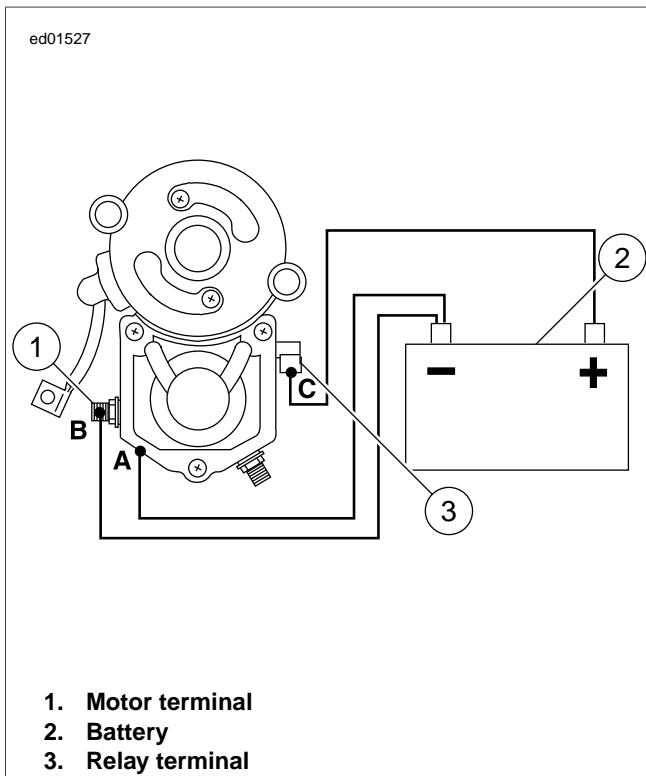

Figure 1-13. Test 1: Pull-in Test
Do not disassemble solenoid. Before testing, disconnect field wire from motor terminal as shown in Figure 1-13.
1. See Figure 1-13. Using a 12-volt battery, connect three separate test leads as follows: